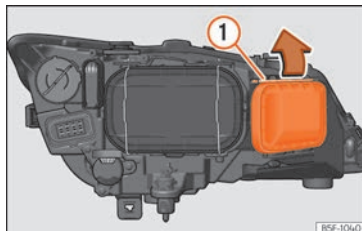

Fig. 111 Main beam headlight bulb.
- Move the loop »» Fig. 111 ① in the direction of the arrow and remove the cover.